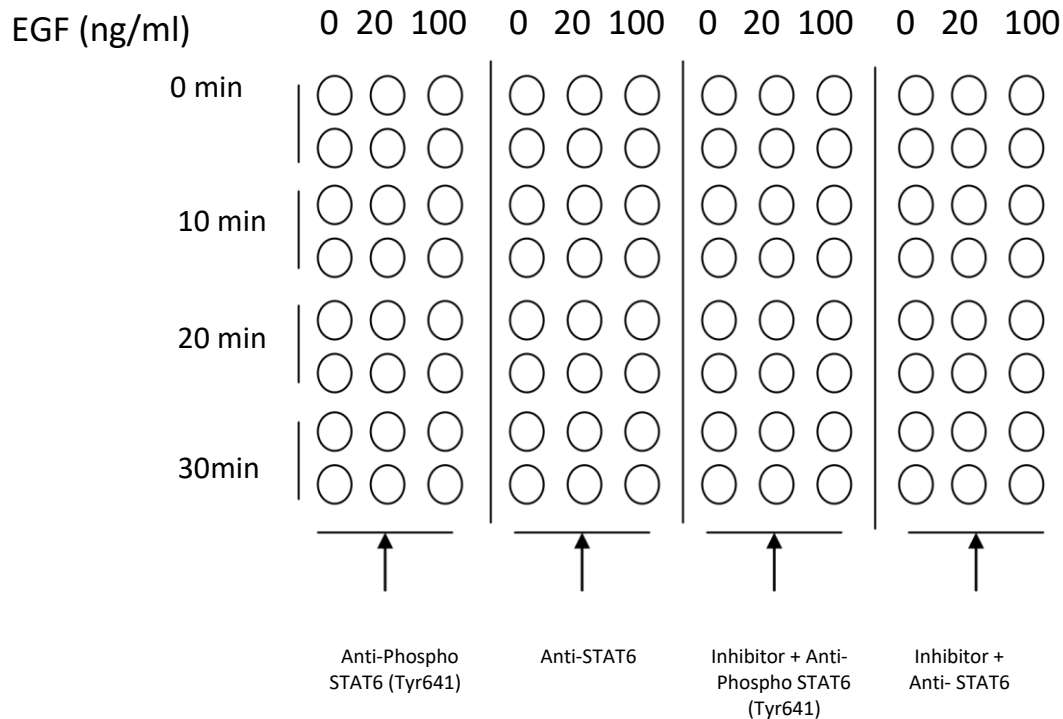

Fig. 2. Example of how to seed cells for LSBio® cell-based assay
1. Design your experiment. For example, see Figure 2 below.